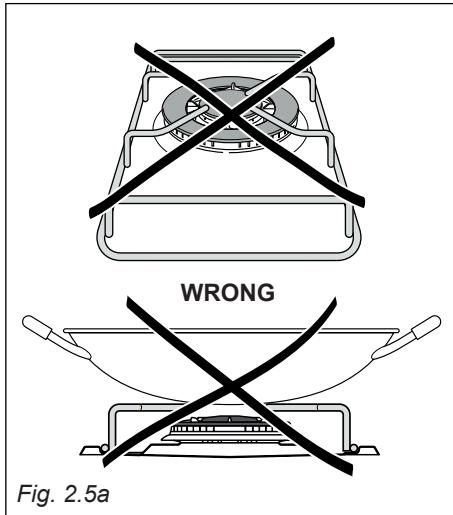

Fig. 2.5a
- To use the WOK you need to place the proper stand (if the wok pan adapter is not supplied with the appliance, it is available as an accessory at extra cost) in order to avoid any faulty operation of the double-ring burner (figs. 2.5a - 2.5b - 2.6a - 2.6b).